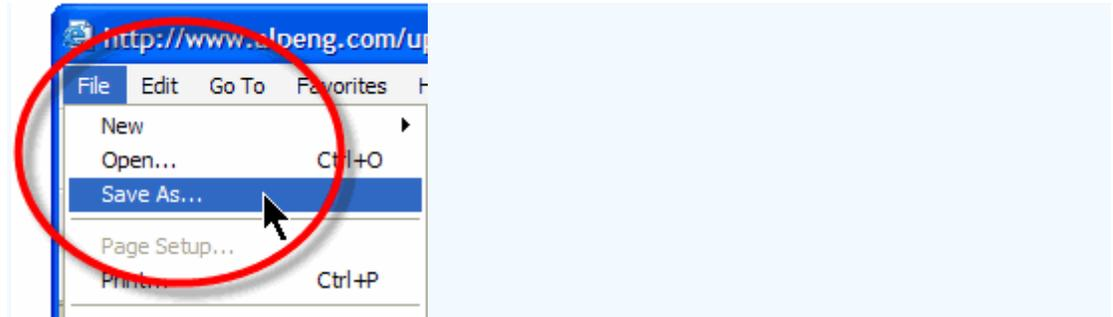

Figure-13
3. The **PDF** documentation may be downloaded into your computer in one of two ways: by either clicking on the *document title* or by clicking the word *Download* (Figure-10). In either case, the **PDF** file is opened by the Adobe viewer. Once opened, select **File** then **Save As** to save the **PDF** file in the desired location on your computer (Figure-13).